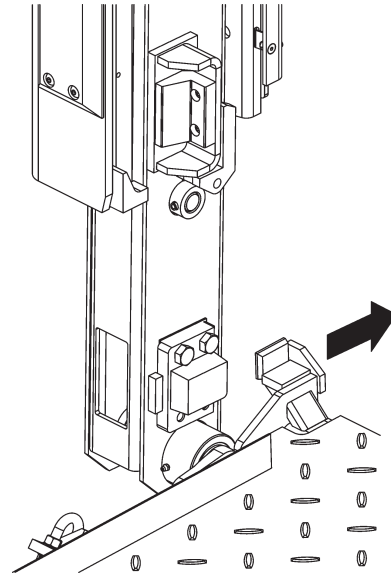

FIG. 28-1
5. Use a forklift or equivalent lifting device to move the platform approximately 6" towards the front of the vehicle to clear the platform away from the attaching points on the runners (**FIG. 28-1**). When platform is clear of the runners, raise the runners (**UP**) a few inches. Then, move platform away from liftgate and the back of the vehicle.